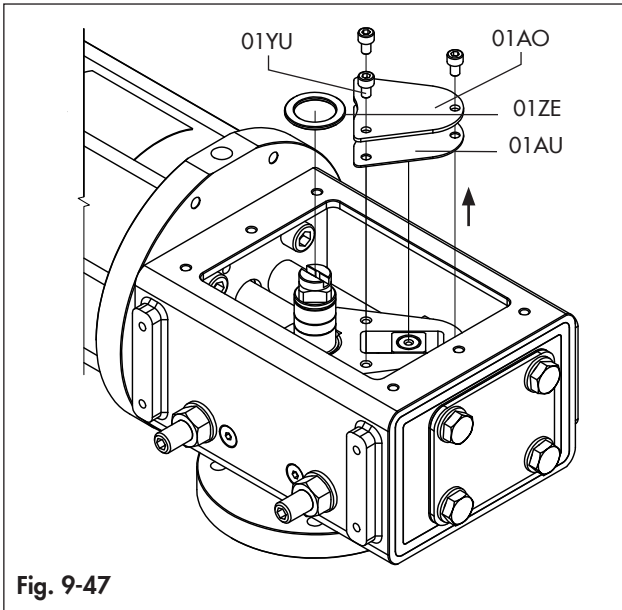

Fig. 9-47
- Add the yoke cover (01AO), the gasket (01AU) and the upper thrust bearing (01ZE) (Fig. 9-47).
- Apply the thread locker Loxeal 83•21 or equivalent and tighten the screws (01YU) (Fig. 9-47).